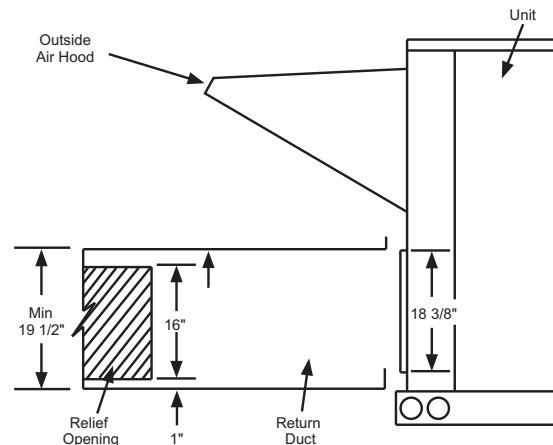

Fig. 21 — Relief Damper
1. Install the field provided horizontal ductwork onto the unit. Duct height must be at least 19-1/2 in. high, however the duct can be no taller than the top of the relief opening in the bottom panel, or airflow into the outside air hood will be restricted. See Fig. 21.
2. Cut a 16 in. x 36 in. opening in the return duct for the relief damper (see Fig. 21).